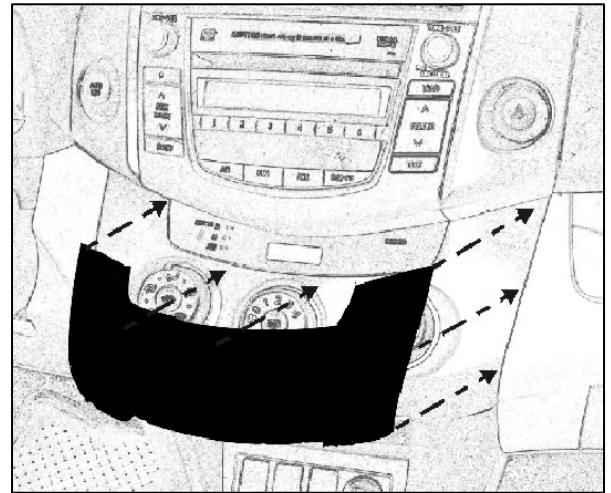

Fig. 7-1
- ii) Align part uniformly to edge of factory components. (Fig. 7-1)